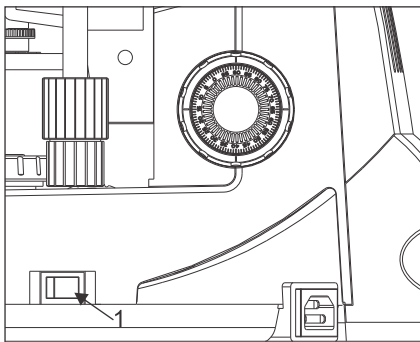

Fig. 13
1. Flip the main switch to "I" (ON) as shown in Figure 13.